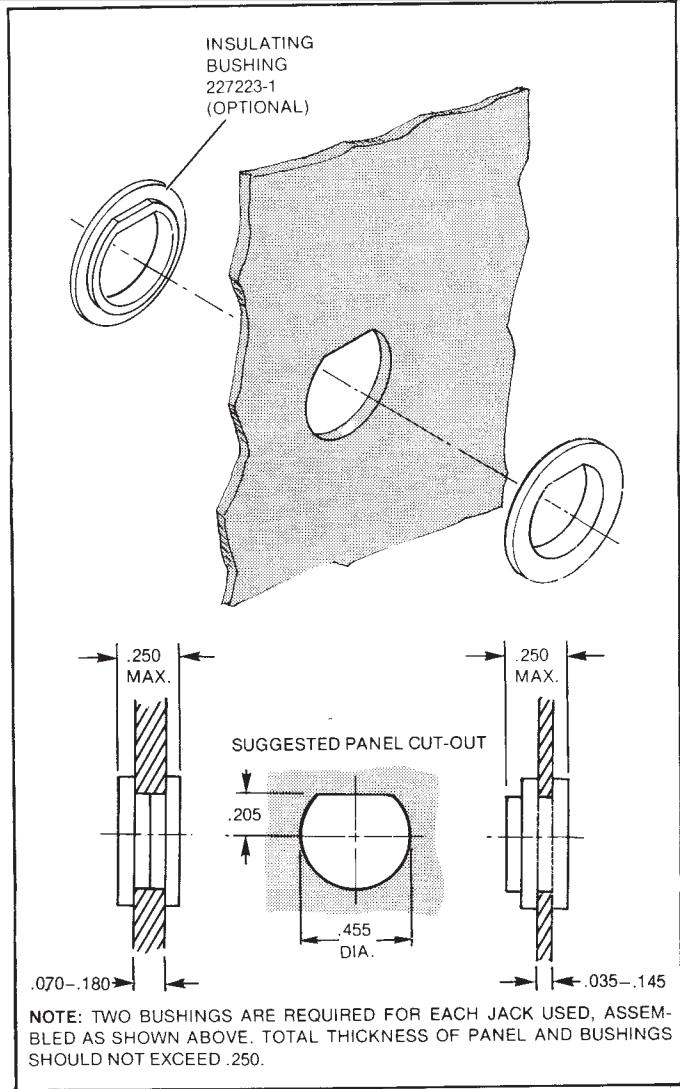

Figure 3
The assemblies containing a solder tab on the lockwasher are used with coaxial cables. For installations requiring ground isolation, the use of the Insulated Receptacle is recommended. Ground isolation can also be obtained with the Standard Receptacles by use of the insulating bushings, shown in Figure 3.
- For installation requiring insulating bushings, panel cut-out shown in Figure 3.